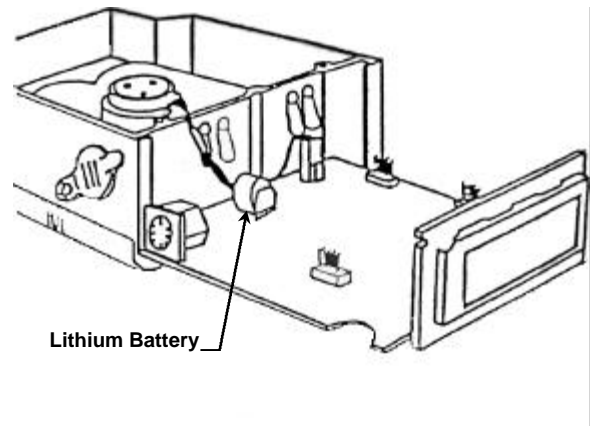

Figure 1-16: The Lithium Battery Location Inside the Instrument
- A lithium battery, non-rechargeable, for the storage of the data in the **OMNI-4000**, in particular while the **OMNI-4000** is non-operational. The life of this battery is between 3 and 5 years. See Figure 1-16 for the location of the lithium battery.